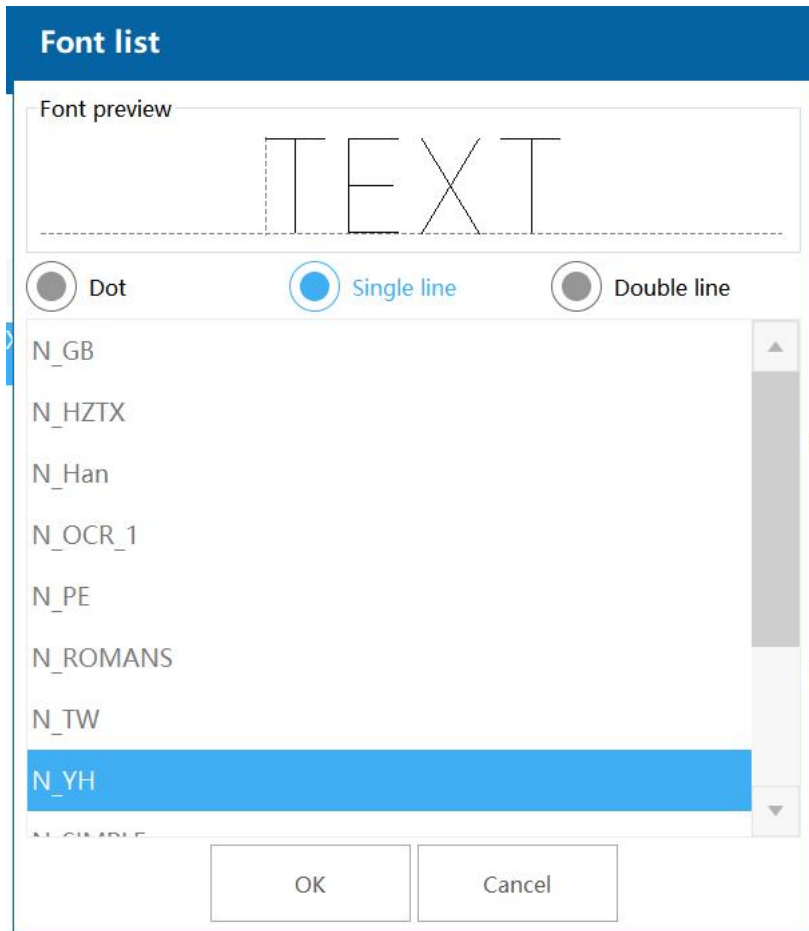

Figure 2-4
**Font:** Select text font, optional dot matrix font, single line font or double line font, as shown in Figure 2-4.